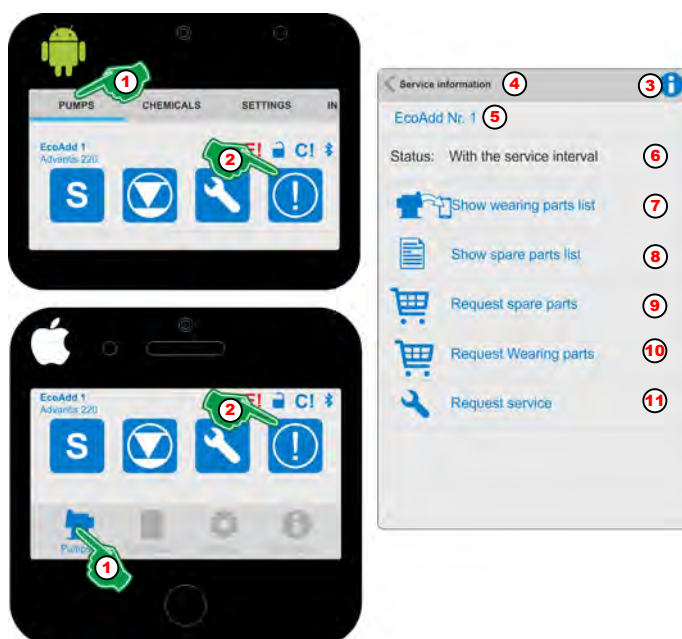

Fig. 35: Retrieve warnings
1. Select Menu 'Pumps' (Fig. 35, Pos. 1).
2. Select 'Warning symbol' / (Fig. 35, Pos. 2).
3. With selection of [Info] Symbol (Fig. 35, Pos. 3), the following information appears:
For better orientation, the setting range 'Service information' (Fig. 35, Pos. 4) is illustrated in header line. To check which pump's data is currently being displayed, look at line below the header (Fig. 35, Pos. 5), in which the selected pump is displayed. The maintenance status is displayed below this line (Fig. 35, Pos. 6)
4. Select 'Show wearing parts list' (Fig. 35, Pos. 7).
- 5.** ▶ Select '*Bug fixing*' (Fig. 35, Pos. 7).
- 6.** ▶ Select '*Request spare parts*' (Fig. 35, Pos. 9).
- 7.** ▶ Select '*Request Wearing parts*' (Fig. 35, Pos. 10).
- 8.** ▶ Select '*Request service*' (Fig. 35, Pos. 11).